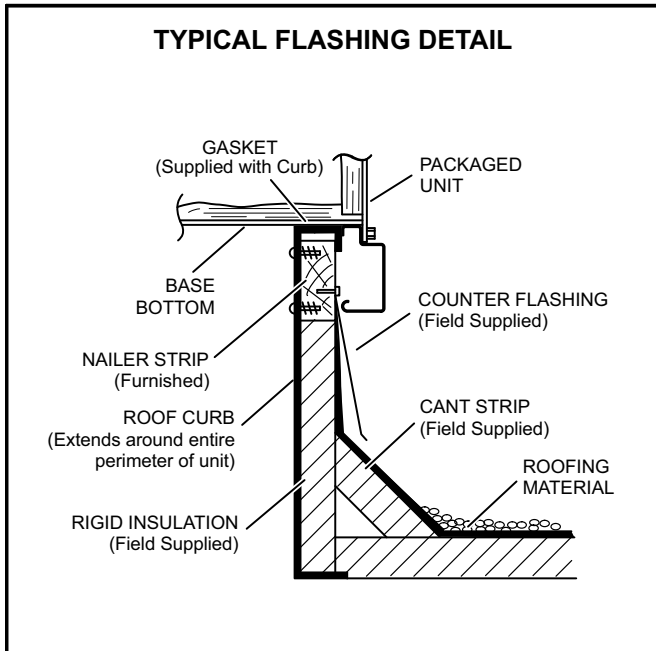

FIGURE 4
- 2- Counter-flash and seal around frame as shown in figure 4.